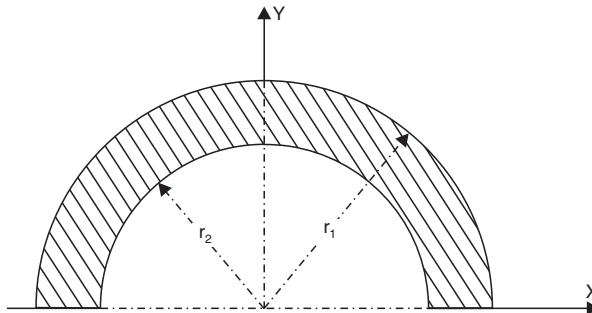

Fig. 4.49
12. Determine the position of centroid of an area enclosed by two semi-circles and their common diameter as shown in Fig. 4.49. Take  $r_1 = 180$  mm and  $r_2 = 135$  mm.